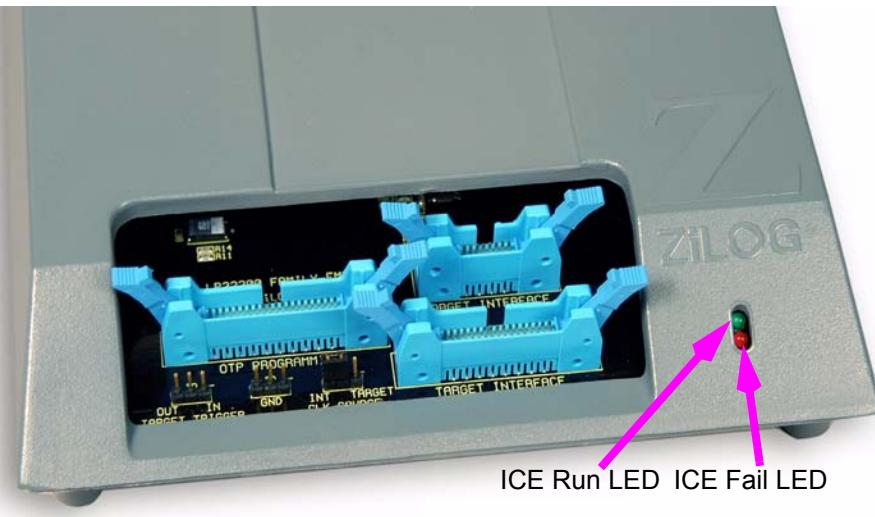

Figure 6. Crimzon ICE Front-Panel
3. Connect a 5VDC power supply to the Crimzon ICE. The 3.3VDC should illuminate (see Figure 3). If the 3.3VDC LED failed to illuminate or the ICE Fail LED illuminates (see Figure 6), there is a problem with the unit. Contact Zilog support at <http://www.zilog.com> for a replacement unit.